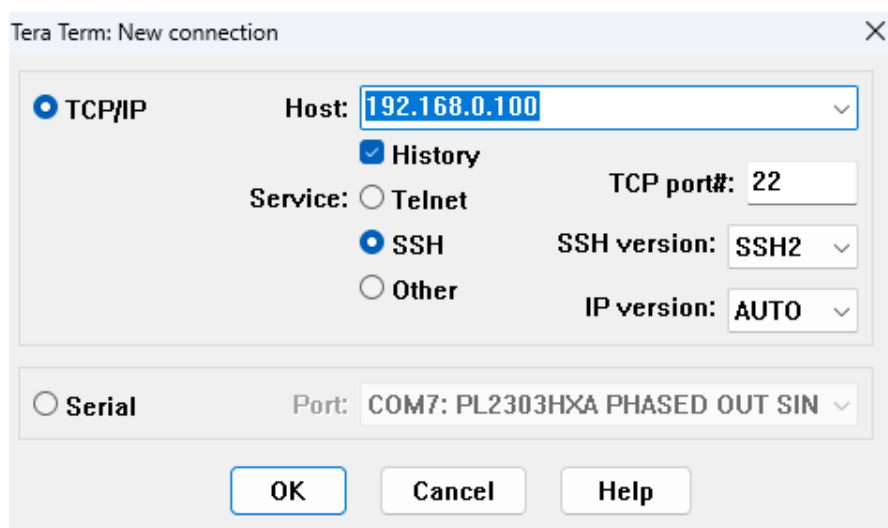

**Figure 3-3:** Web Main Screen of Industrial Managed PoE Media Converter
- Upon successful password update, re-access the web interface using your new credentials. You will then see the main screen as illustrated in **Figure 3-3**.